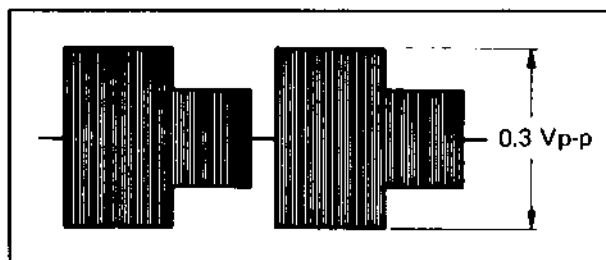

Fig. 5-29 ACC output level
4. Adjust R335 (ACC OUT LEVEL) so that the level of color signal is 0.3 ± 0.04 Vp-p as shown in Fig. 5-29.